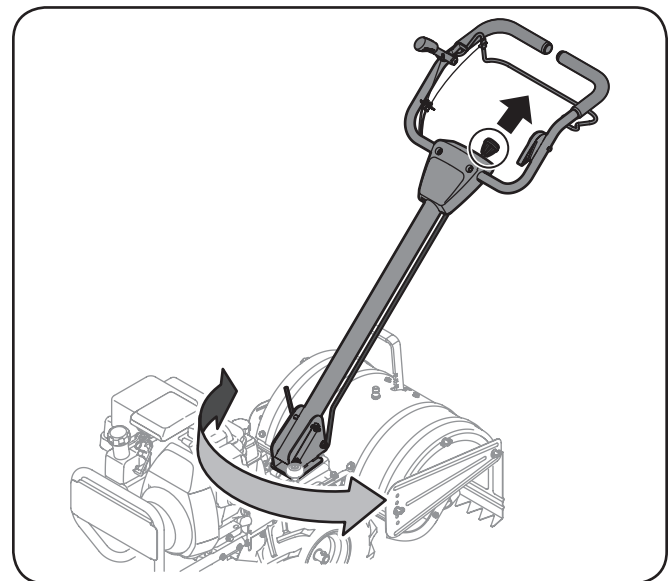

Figure 5-4
1. The tiller handle can be swivelled in either direction. The pivot control handle enables the tiller to be guided sideways to the next row. See Figure 5-4.